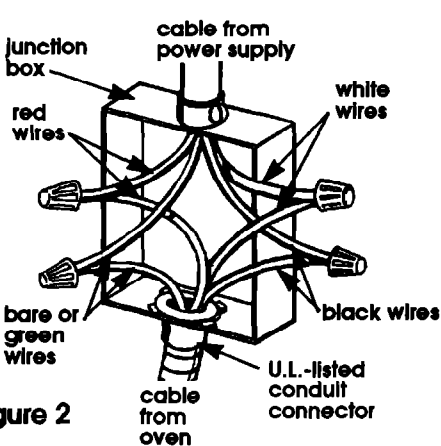

Figure 2
4. Connect the two black wires together; then connect the two red wires together with wire connectors. See Figure 2.